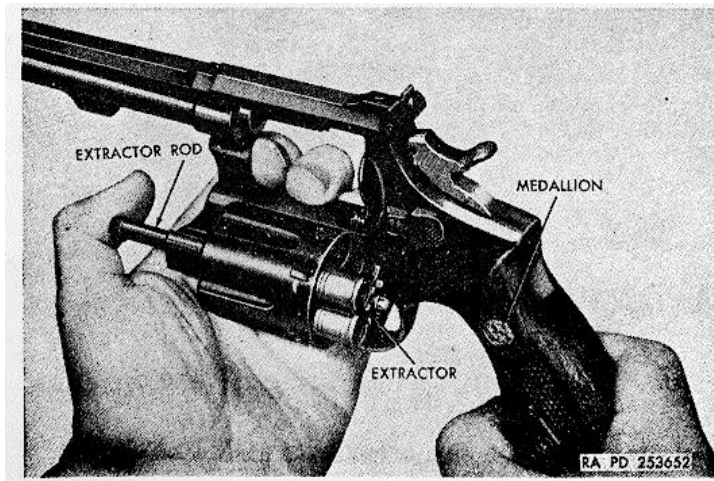

Figure 24. Unloading empty cartridge case from cylinder by depressing extractor rod (Smith and Wesson).
- (1) The extractor rod (fig. 24) is located in the center of the cylinder and yoke group and is knurled at the forward end.
- (2) After releasing the cylinder, depressing the rod rearward extracts empty shells or cartridges. The extractor rod will return to its normal position, due to spring loading.